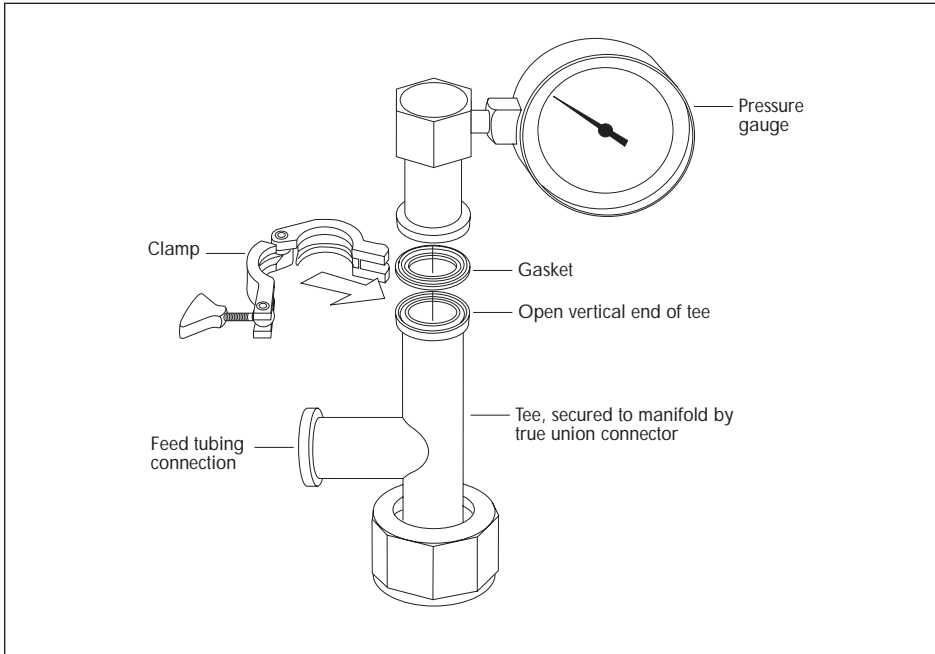

Figure 8. Sequence and Orientation of Gauge, Gasket and Clamp on Tee
3. Secure a pressure gauge to the tee. (The sequence and orientation of the components are shown in Figure 8.)
3. Using a stainless steel clamp, attach the feed tubing to the open end of the tee, which is perpendicular to the main body of the tee. (The feed tubing connection is indicated in Figure 8.) The sanitary fitting end of the tubing incorporates a gasket: the only piece needed to attach the tubing to the tee is the clamp.